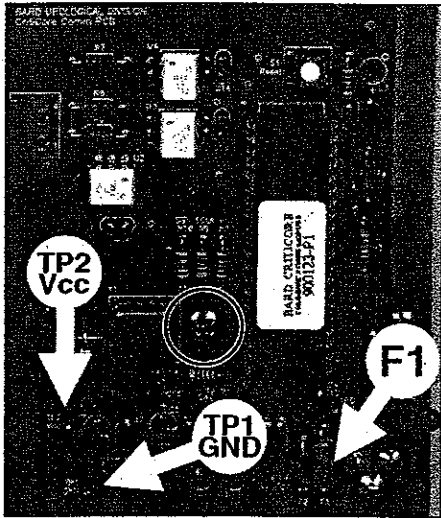

Figure 83
2. Remove the one (1) 6-32x3/16" Phillips pan-head screw which secures the Communications Module to the front enclosure (see circle in Figure 83). Remove the Communications Module.
3. Locate the F1 leads on the back side of the PCB and carefully desolder them. Refer to the Figure 83 for the location of F1.
3. Install the one (1) 6-32x3/16" Phillips pan-head screw that attaches the Communications Module to the front enclosure (see Figure 83).